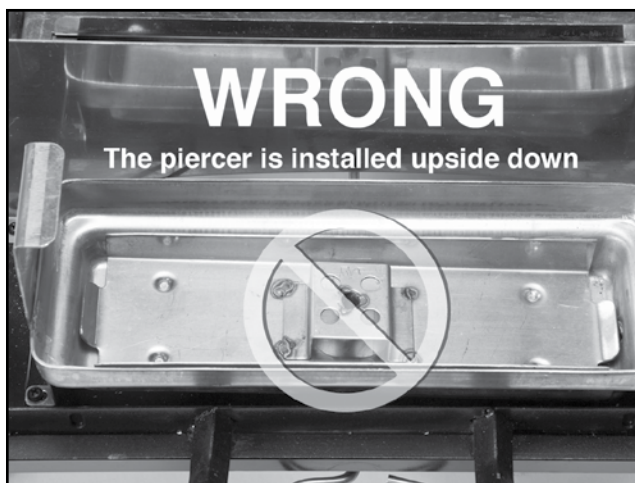

Figure 17
7. Make sure that all parts of the appliance are returned to their proper operating positions by following assembly instructions. Ensure the logs and the piercer are installed properly (see Figure 17). The top surface of the piercer should be level. If it is higher on the left end, then turn it around and place it back in place again.